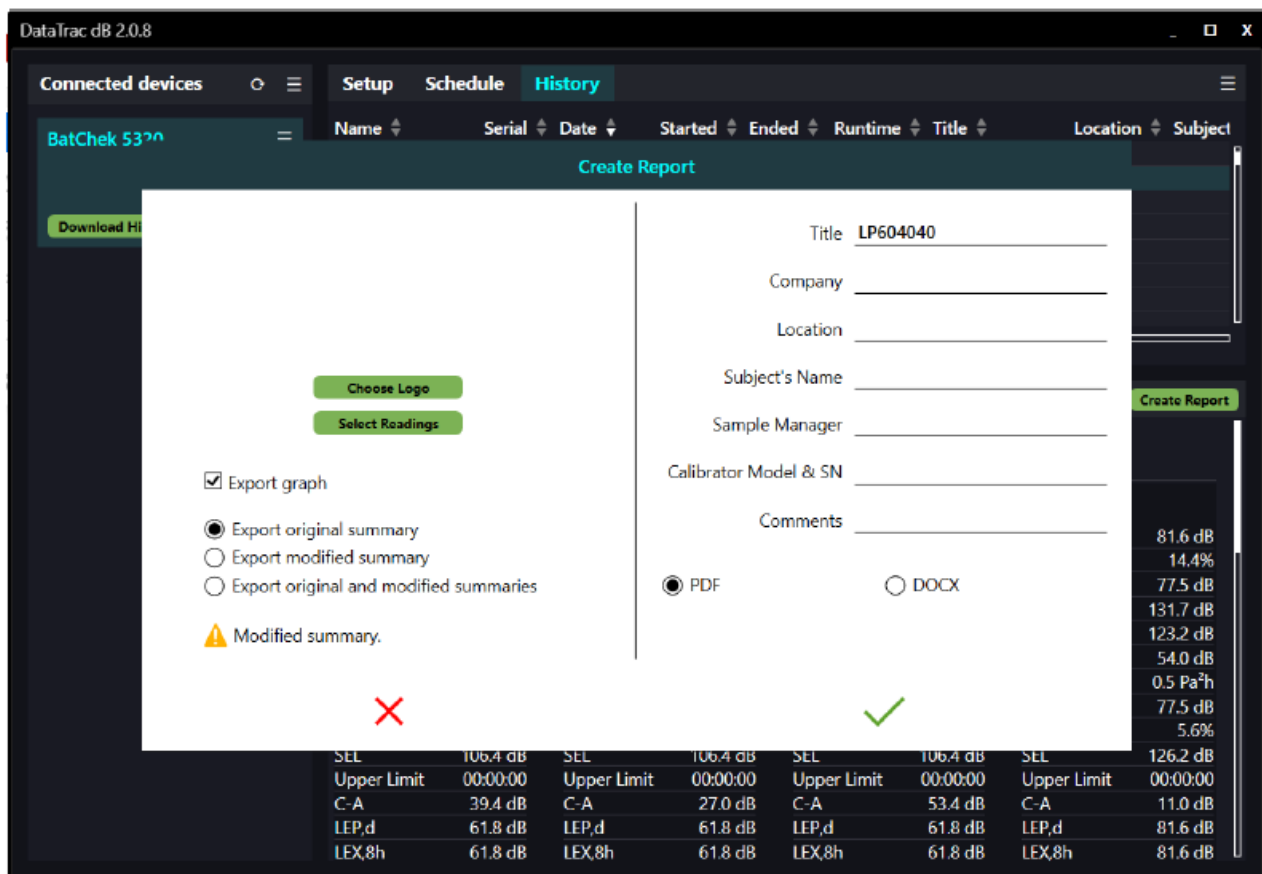
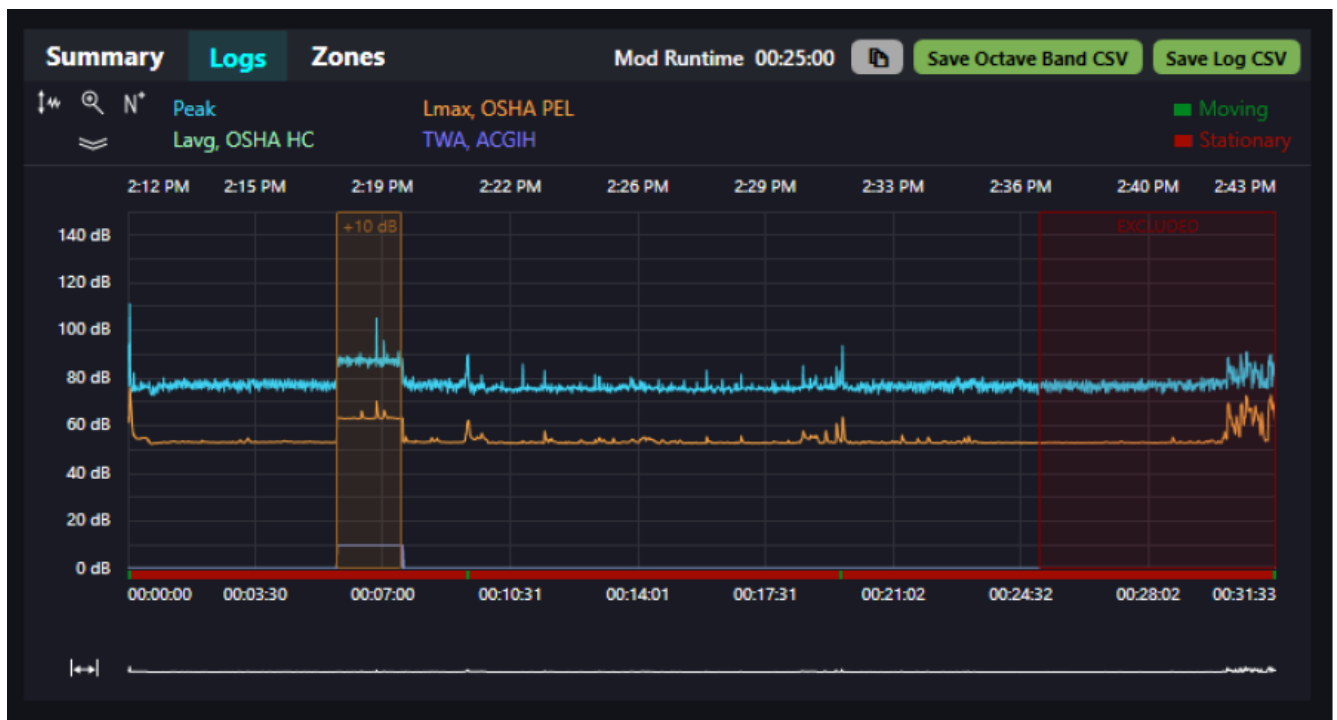

Figure 11. Create Report
Figure 15. Zone Displayed in Logs Graph
3. Click Create Report to create a summary report in PDF or Word (DOCX) format. In the Create Report window (Figure 11), make the desired selections and entries.
1. Add zone. Click icon and use cursor to drag and select desired zone. In Add Zone window (see below), select exclusion or offset, start/end times, and +/- dB value as applicable. Also see Zones – Exclusion and Offset. A warning message that data has been modified will appear in the Summary and, if the modified summary is exported when creating a report (see Figure 11), in the summary report. See the example in Appendix B.
When exclusion or offset zones are added, a warning message that data has been modified will appear in the Summary and, if the modified summary is exported when creating a report (see Figure 11), in the summary report.
5. The zone is listed under the Zones tab and displayed in the Logs graph (see Figure 15). Modified run time is shown. Both the original and modified data summaries will be displayed in the Summary tab and one or both can be exported to the summary report. See Figure 11 and Appendix B.